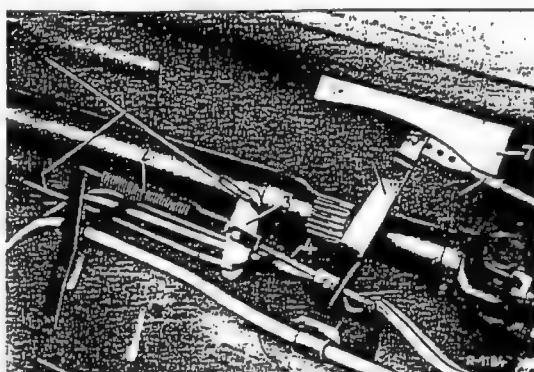

Fig. 42-10/16
8. Screw in the adjustment screw (31) until there is a clearance of approx. 0.5 mm between the friction pads (29) and the brake disk (19). Then cotter the adjustment screw (Fig. 42-10/14).